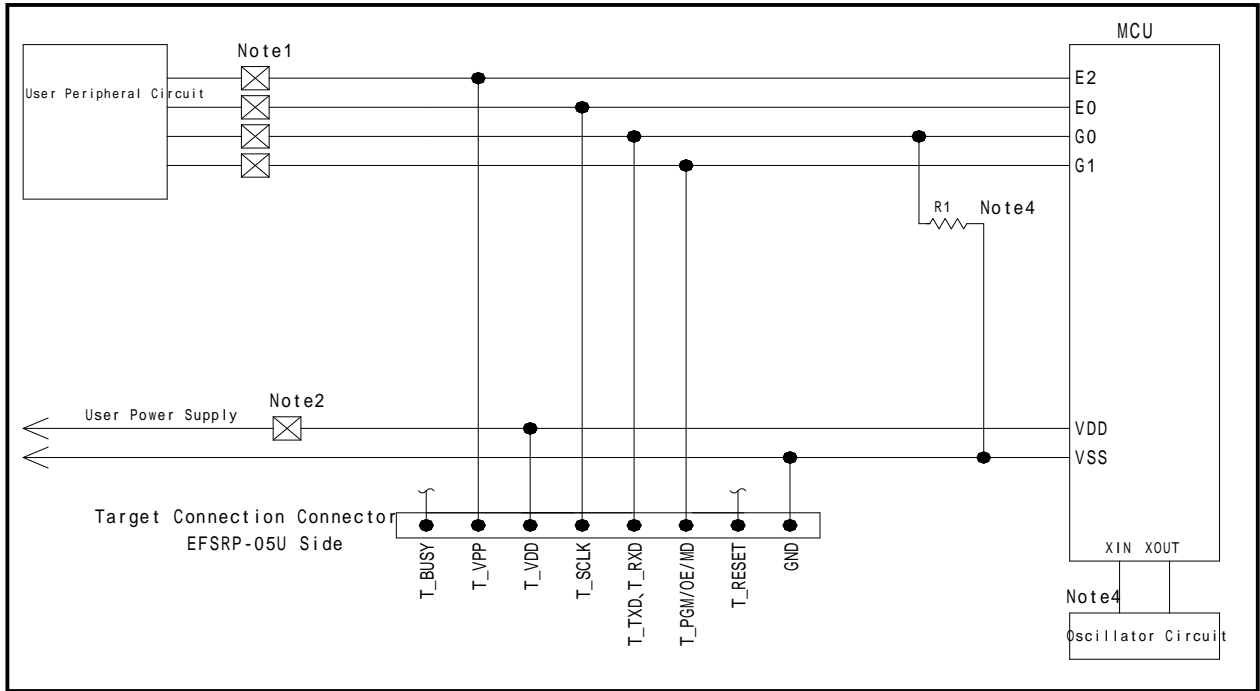

Fig3.1: Target MCU Peripheral Circuit Example
(1) Fig3.1 shows an example of target MCU peripheral circuit when using 4283 group.